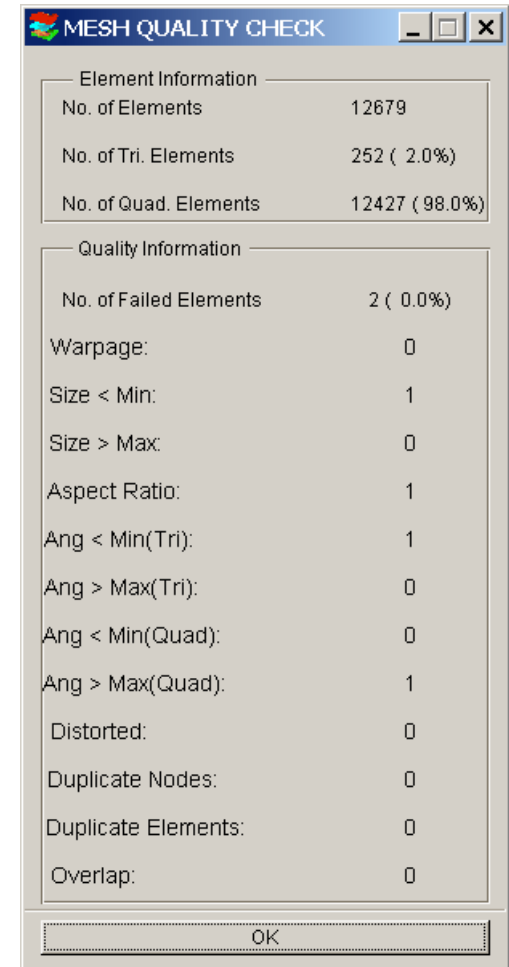

Figure 1.5
- g) Click **OK** to dismiss MESH QUALITY CHECK dialog window (See Figure 1.5)